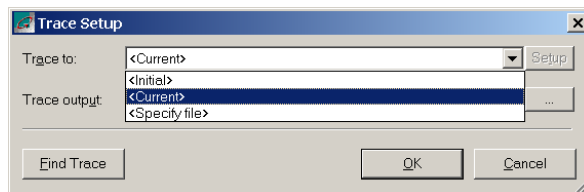

Figure 149: Trace Setup, Trace To options
- 3 There are 3 options for setting the desired configuration to reach. See *Figure 149*, page 183.